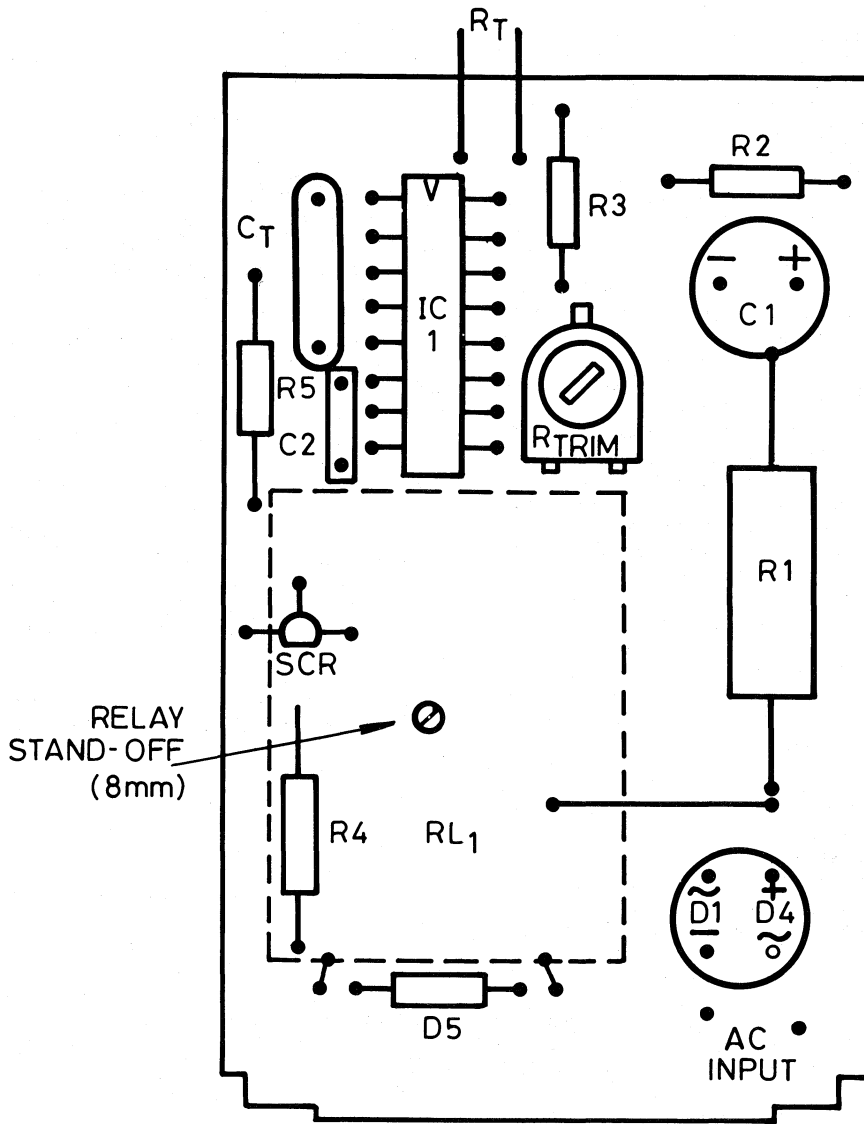

Fig. 22
i.e. 200kHz, pin 15 is sensitive to radiated high frequency interference. Mains borne pulses can be equally troublesome if steps are not taken to isolate pin 15 from such interference. The method used in the design example of Fig. 22 is effective against both EMI and Mains Borne noise. A ground plane is produced by leaving a large area of copper on the component side of a double sided PCB with clearance holes for the component connections. The ground pin (8) is connected to the earth plane and the earthy side of components such as C_T and the decoupling capacitors are also connected directly to the ground plane. In this way the connections have a low impedance to pin 8 and the possibility of coupling interference pulses from the load or decoupling components into the oscillator circuit via common earth leads is reduced considerably. At the same time the printed circuit connections are screened from EMI.